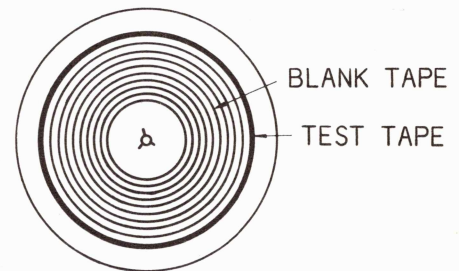

Figure 7-2 Test Tape Loading
Since tape tension affects tape speed, it is important for accurate measurement that the flutter test tape used is attached to the end of a full wound reel of blank tape as shown in Figure 7-2 , and is used with the REEL pushbutton set to the appropriate reel size.
4. Attach the test tape to a 10 1/2 inch NAB reel as shown in Figure 7-2 , place the test tape on the supply reel table, thread the tape, and set the REEL switch to the "OUT" LARGE position.
It is important that the flutter test tape used is attached to the end of a full wound reel of blank tape as shown in Figure 7-2 , and is used with the REEL pushbutton set to the appropriate reel size.
4. Attach the test tape to a 10 1/2 inch NAB reel as shown in Figure 7-2, place the test tape on the supply reel table, thread the tape, and set the REEL switch to the "OUT" LARGE position.